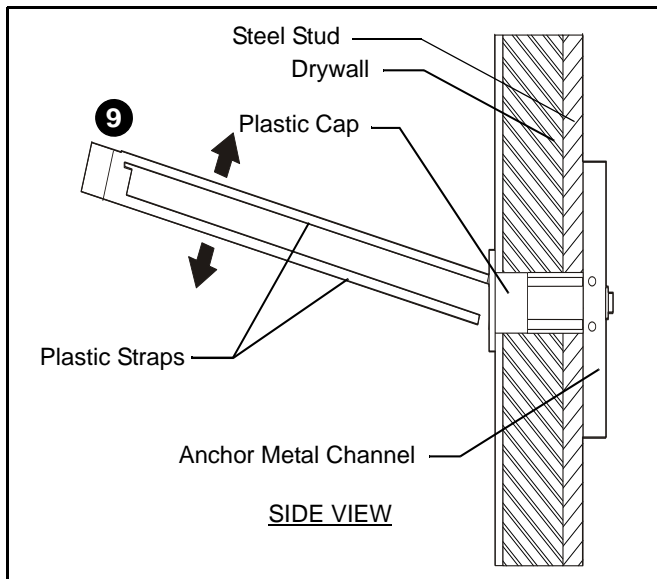

Figure 18
9. Snap off plastic straps on anchor at wall by pushing side to side, snapping off straps level with flange of plastic cap. (See Figure 18)